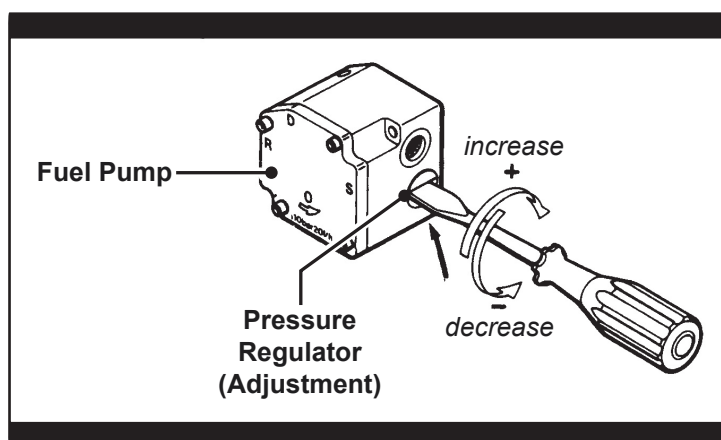

Figure 21
1. Turn the *Diesel* switch **ON** and simply turn the *Pressure Regulator Adjustment Screw* clockwise to increase fuel pressure or counter clockwise to decrease fuel pressure, reference Figure 21.